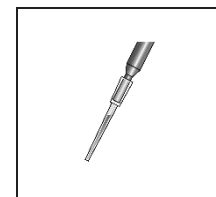

Figure 2
2. Depress the plunger on the minipet. Immerse the yellow tip in the water sample and release the plunger. When the plunger is released, a portion of the test sample will be drawn into the yellow tip (figure 2).